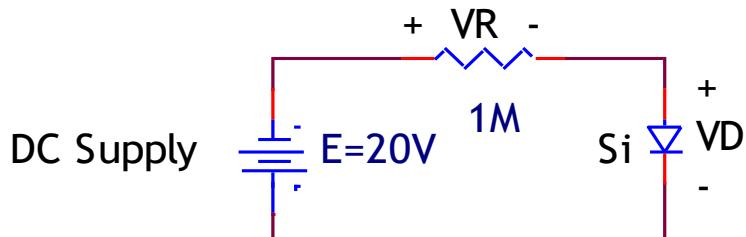

*Fig. 3.1*
1. Construct the circuit of *Fig. 3.1* with the supply (*E*) is set at 0 V. Record the measured value of the resistor.